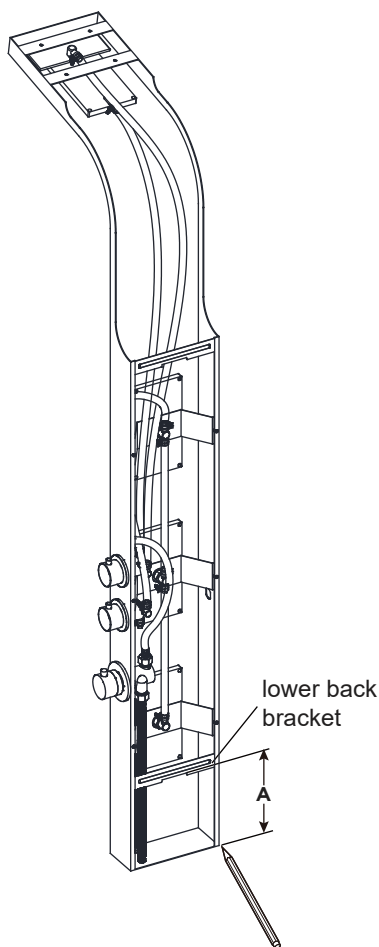

Fig 1.1
- 1-1** Position the shower panel on the wall according to figure A on page 5. Draw line 1 on the wall along the bottom of shower panel. (Fig 1.1)